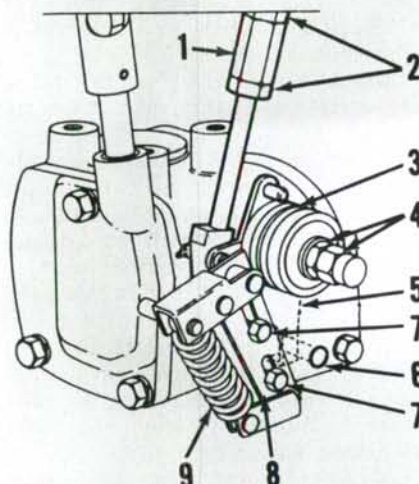

Fig. 248—View of linkage control lever connecting rod adjustment point.
ting. Move linkage control lever forward until it is 3 mm ($\frac{1}{8}$ inch) from end of quadrant slot. Loosen jam nuts (2—Fig. 248) and turn adjuster (1) until friction lever (5) contacts pin (6). Tighten jam nuts securely against adjuster (1).